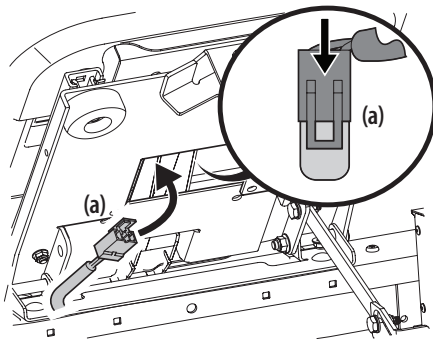

Figure 2-9
4. Insert the wiring harness (a) into the bottom of the seat as shown in Figure 2-9.